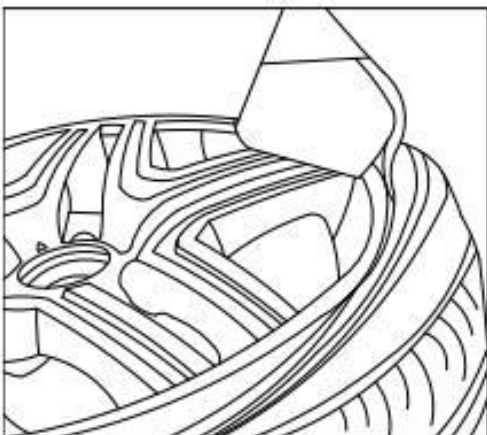

Figure 7
- Keeping the tire hook in the top position, press the pedal (M) and turn the dial (O) clockwise until the tire is completely removed from the rim. (Figure 7)
- If an inner tube needs to be removed, the inner tube can be removed by pressing the pedal (N) backward tilting arm without unlocking the arm.